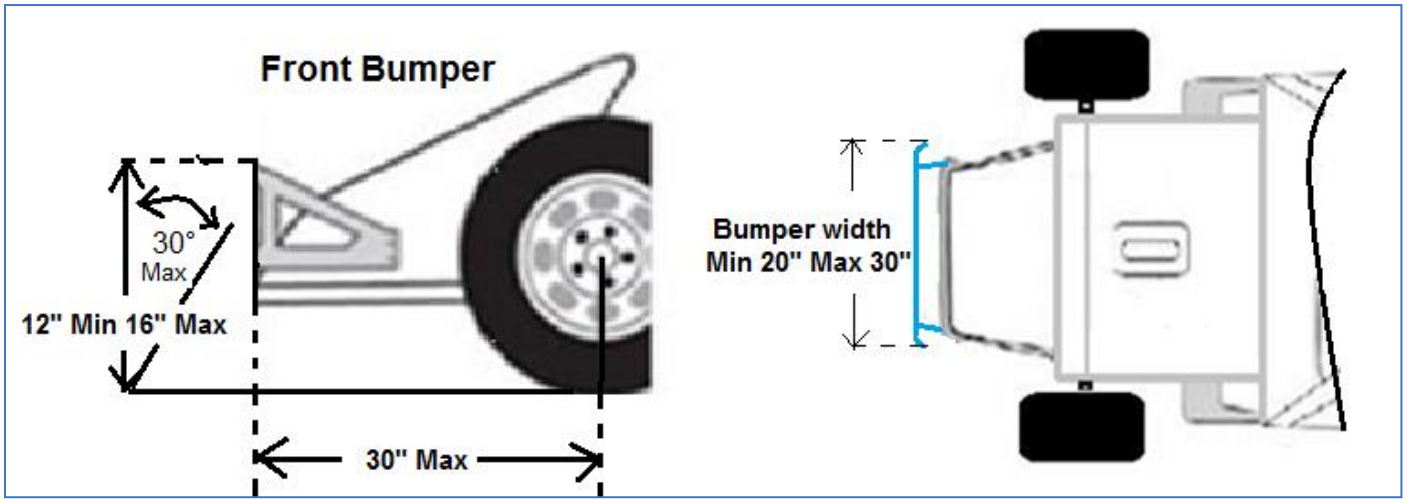

Figure 11
16.1 Front bumper maximum width 30 inches and minimum width is 20 inches. Ground to top of bumper must be 12 inches minimum up to 16 inches maximum. Bumper may not extend more than 30 inches forward of the spindle measured from the centre of the front spindle to the outside of front bumper. Front bumpers may have a maximum rake of 30° (*Figure 11*).